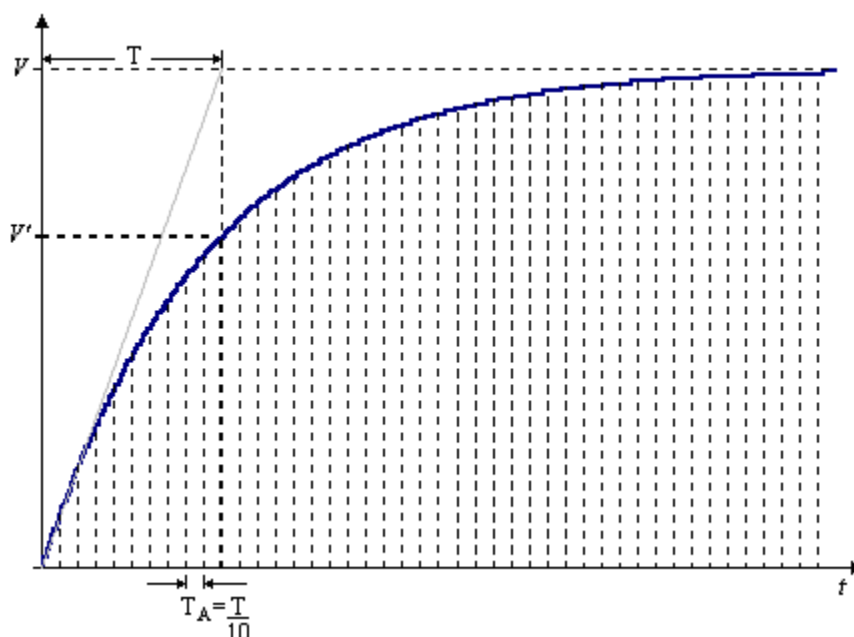

Figure 7-18. Obtaining the Time Constant
Example: The time constant of a first order system can be obtained from its response graph of the manipulated variable (MV) to one step in the setpoint SP with open loop control (PID disabled or mode manual), according the Figure 7-18.
Figure 7-18 shows the obtaining of the time constant of the system using two different modes. The most common is taken as the system time constant the time required for the system to reach 63.212% of the final value. Another way is to plot the first derivative of the step response curve, the time constant is the one where this line crosses the final value of the system response.